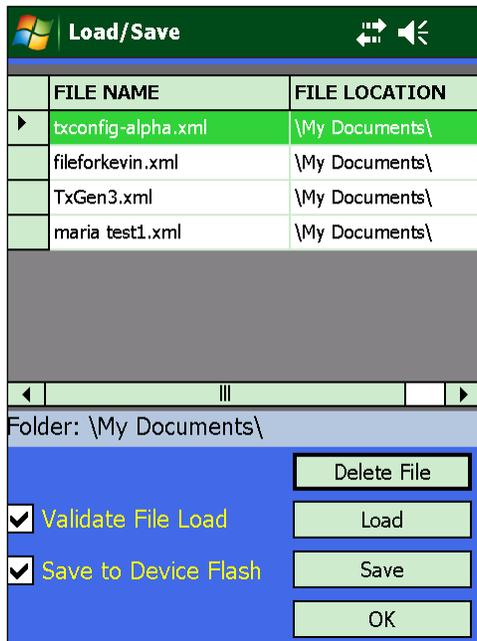

Figure 28: Load/Save--Minus Deleted File
5. Tap Yes to continue deleting the preset. The Load/Save screen redisplayes without the deleted file, as shown in Figure 28.